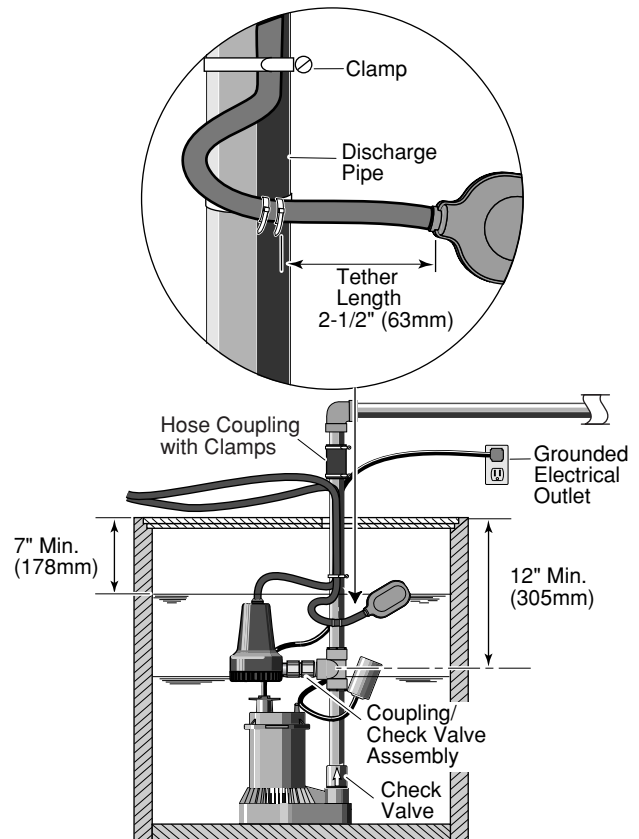

Figure 6 – Double pump and float switch installation
8. Mount the float switch assembly (Key No. 8) loosely to the discharge pipe with the cable ties (Key Nos. 8A & 8B). Approximately 2-1/2" (63 mm) of cord length should be left between the float and the clamp. Adjustments may be needed; do not tighten the cable ties. See Figure 6.